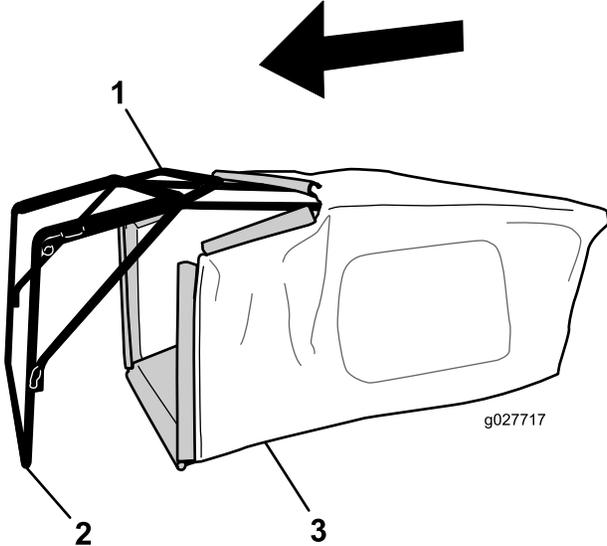

Figure 7
- 1. Slip the grass bag over the frame as shown in Figure 7.
Note: Do not slip the bag over the handle (Figure 7).